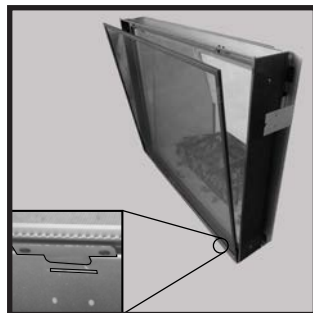

Figure 4: Safety barrier screen.
1. Remove safety barrier screen See Figure 4 by prying the top portion of the screen toward you, then lift the screen from its tabs (inset) located at the base of the door frame.